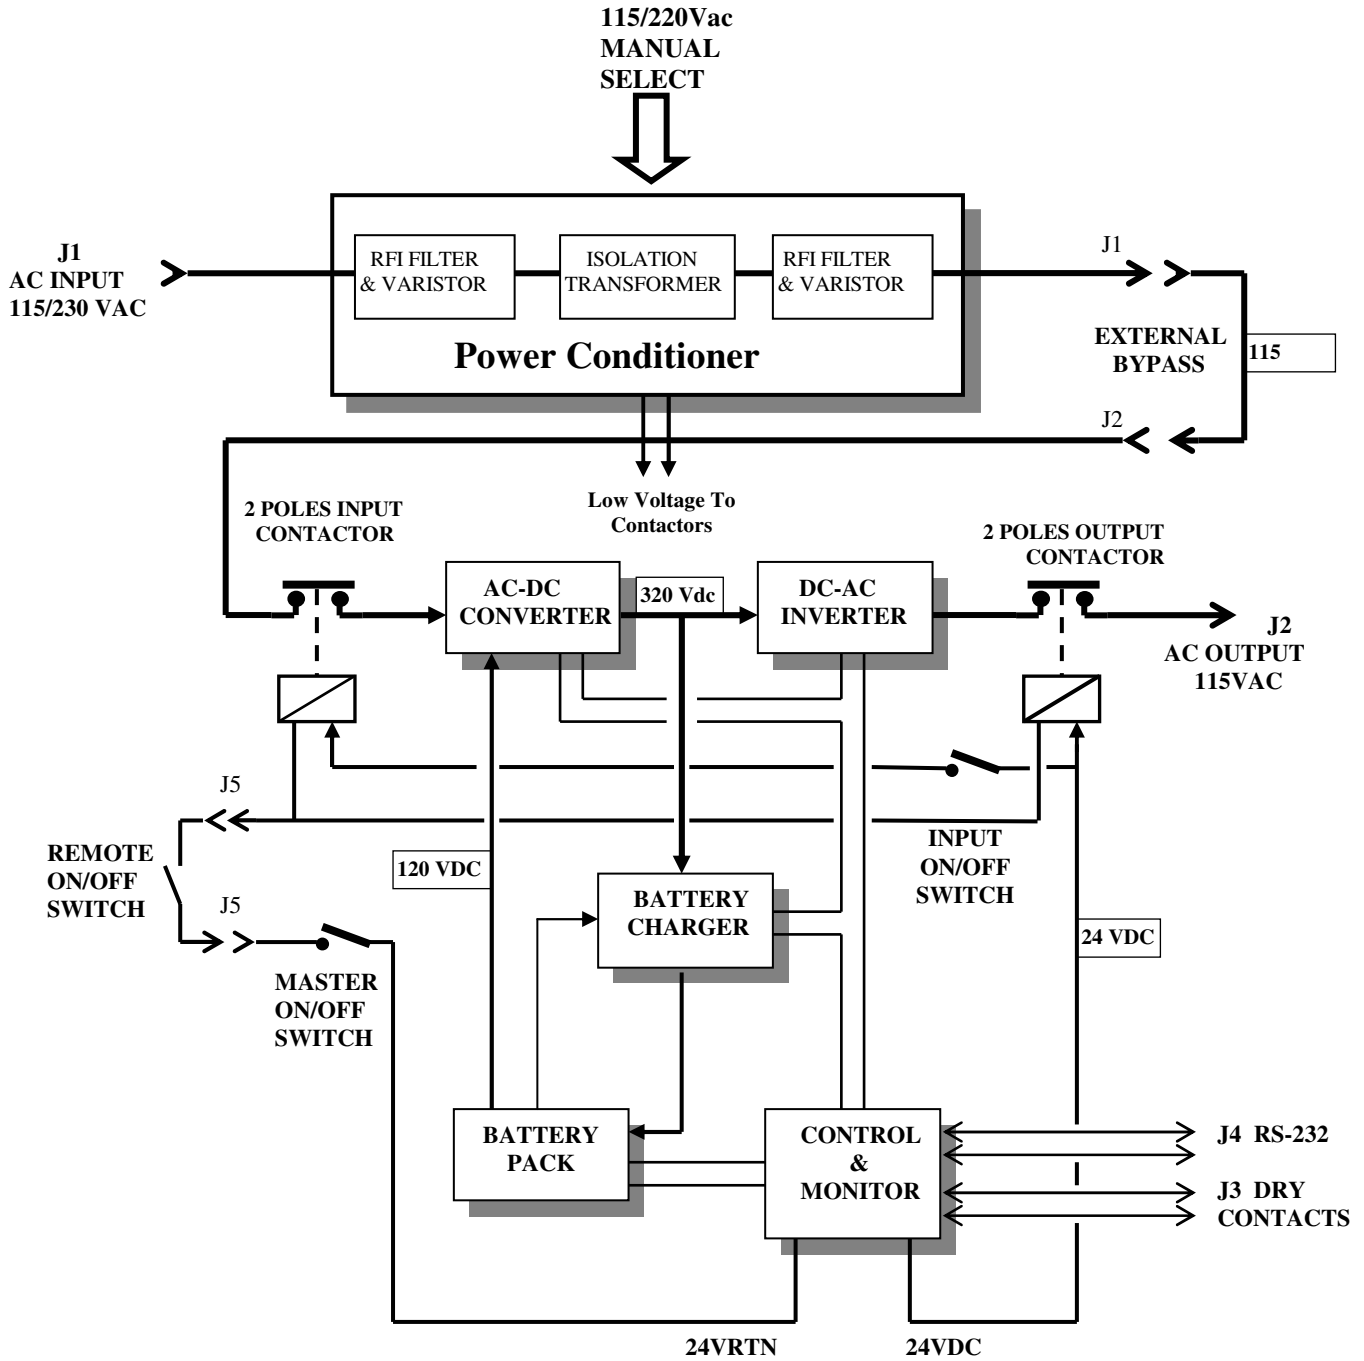
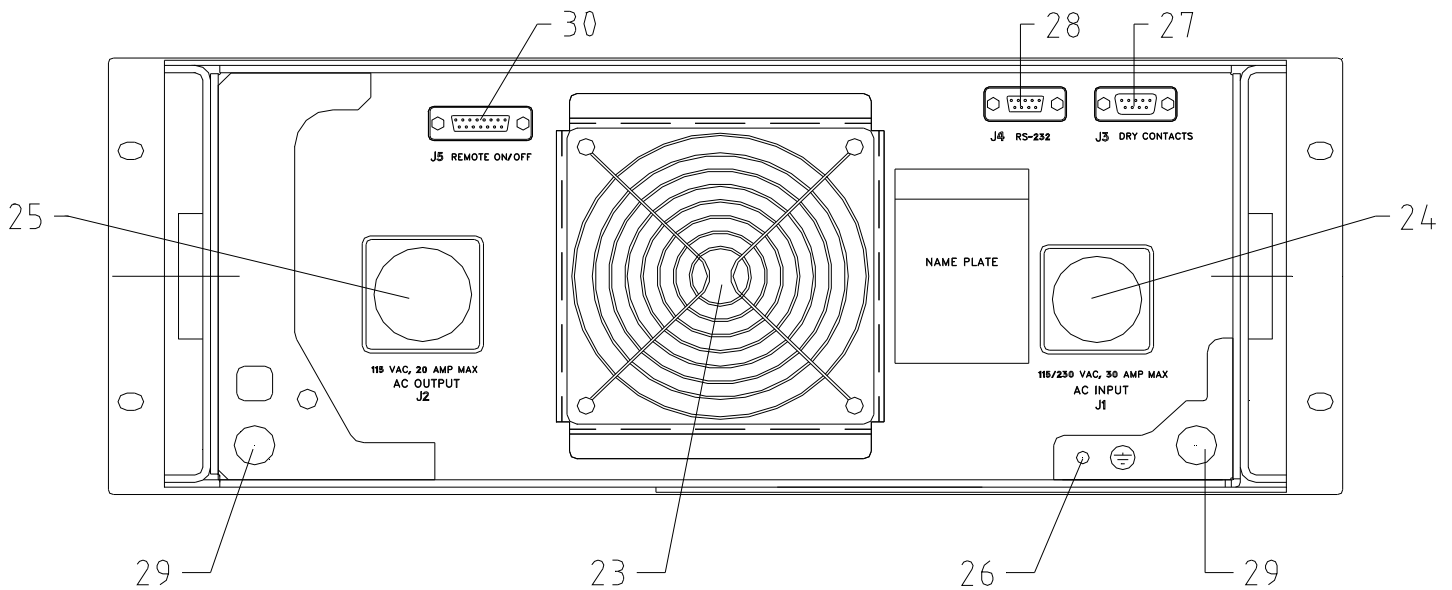

Figure 1: M130BA-1 Block Diagram
Figure 6 - Rear Panel
The M130BA-1 consists of two main sections: Power Conditioner and UPS (see Fig. 1). The Power Conditioner is an isolation transformer (with RFI filters and spike absorbers). Both the input and output of the Power Conditioner are available to the user via the external connectors of the unit. This configuration allows the user to externally bypass the UPS section of the M130BA-1 without losing the surge protection and noise filtering provided by the Power Conditioner. This capability is extremely important in shipboard applications since most standard commercial equipment is designed to operate safely from grounded AC lines, whereas in standard shipboard electrical systems both lines are HOT and none may be grounded. The power conditioner allows the safe connection of commercial equipment to standard shipboard electrical systems without creating a safety hazard. See Section 3 for detailed connection diagram. In addition to 115Vac, the isolation transformer provides a low voltage for the 24Vdc contactor supply. When AC input drops, the 24Vdc is provided from battery power.
Two circular connectors (J1 and J2) are provided on the rear panel of the UPS (see Figure 6). J1 is the input connector to the Power Conditioner section of the unit. J2 carries the output of the Power Conditioner and both input and output of the UPS section. (Please refer to Fig. 1 for the definitions of the Power Conditioner and the UPS sections.)
5. Rear Panel Description (See Figure 6)